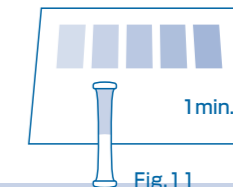

Fig.11
- After 1 minute, compare with the Standard Color. (Fig.11)